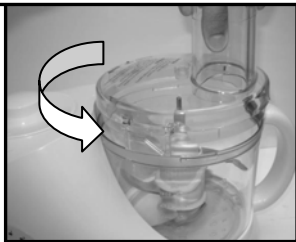

Fig. 8
1. Place the lid on top of the food processor bowl. Once in place twist it to the left so that it is locked securely. (Fig. 8)